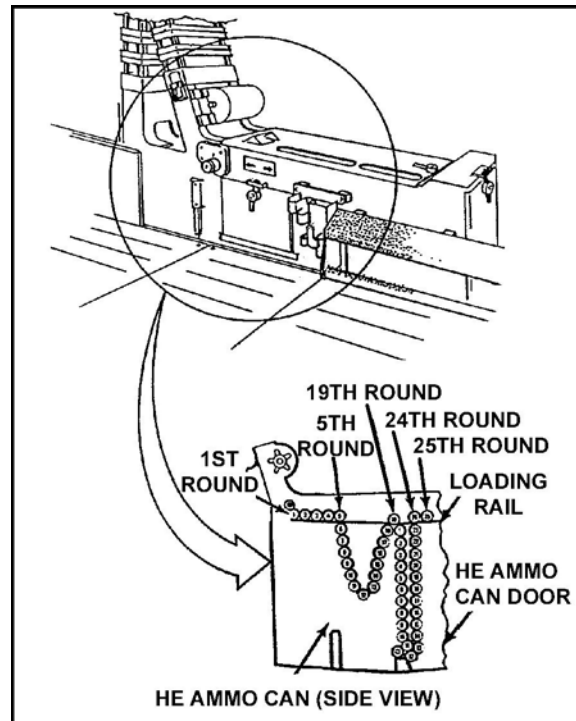

Figure 4. Round placement.
d. Count the next 25 rounds. Hang both the 24th and the 25th rounds on the loading rail (Figure 4).